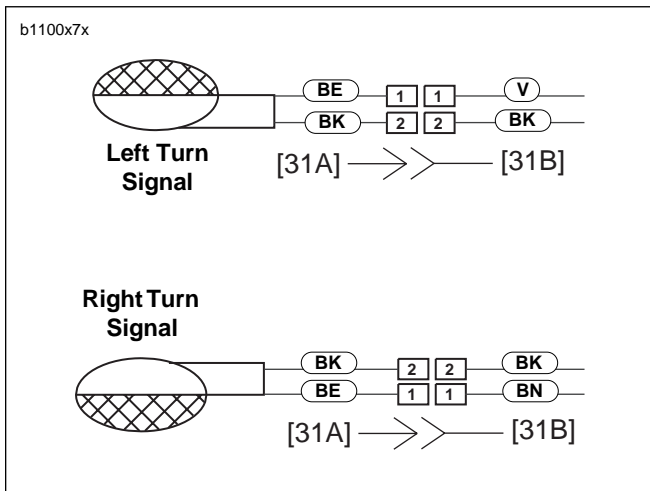

Figure 7-57. Front Turn Signal Connections
3. Attach bullet connectors on turn signal wires as shown in Figure 7-57.
1. See Figure 7-57. Insert bullet connectors through license plate bracket.